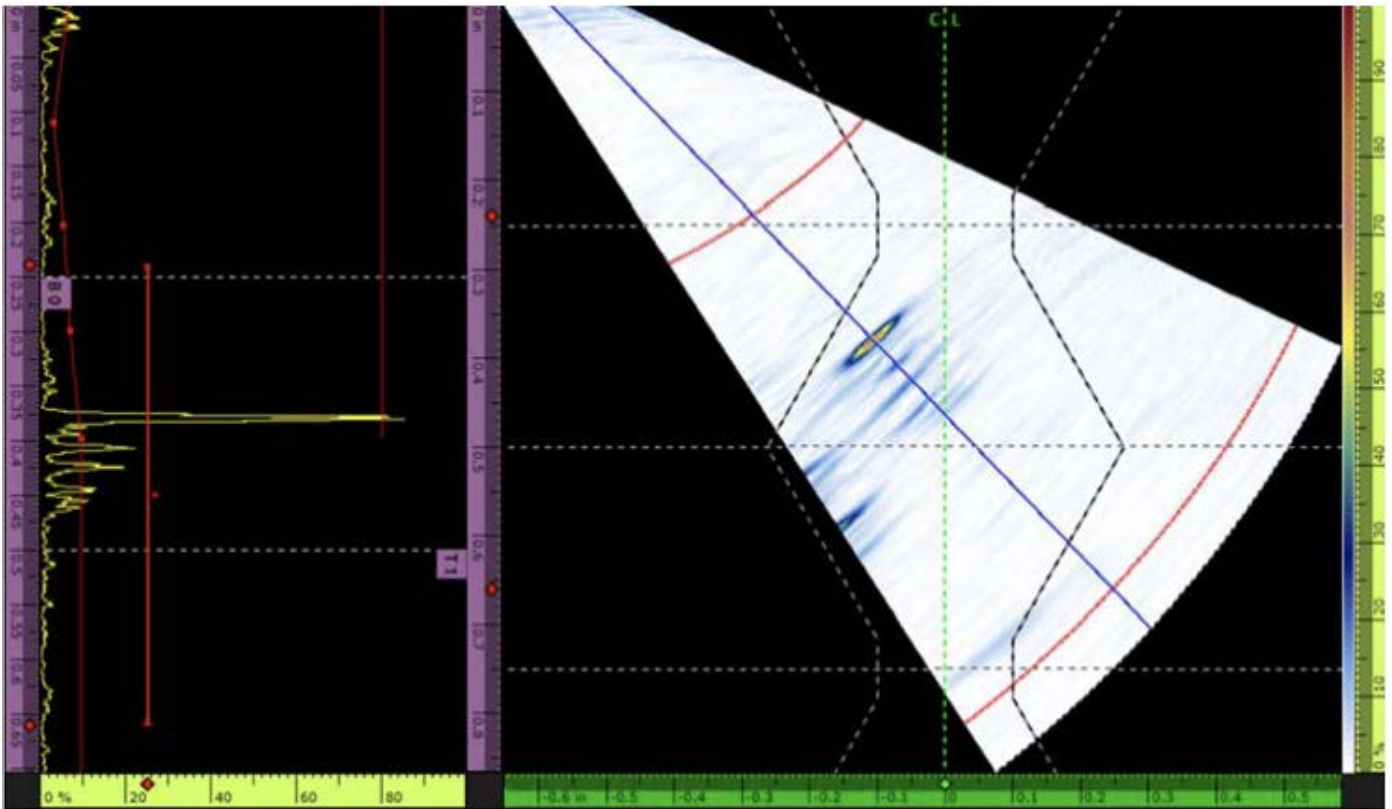
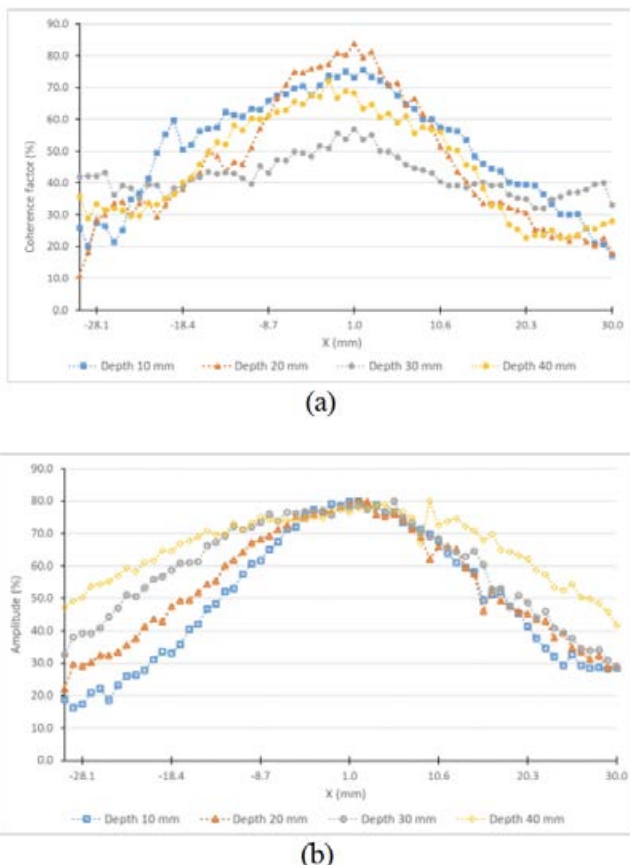

Figure 4. The same indication as Figure 3 appears to be Slag due to location on Weld Overlay. 37° bevel with a 0.10" Land Offset.
Figure 5. Distributions across ROI width established for tip diffractions at different depths of (a) PCI coherence factor; (b) TFM amplitude.
Figure 4. Mechanical TScan Cumulated images and corresponding Echodynamic Scanning curves obtained using (a) PCI and (b) TFM for tip diffractions at depths of: (1) 10 mm, (2) 20 mm, (3) 30 mm, (4) 40 mm.
The results presented in Figure 4 show the Mechanical TScan Cumulated images and their corresponding Echodynamic Scanning curves obtained by CIVA Analyse.
The Echodynamic Scanning curves of PCI and TFM were extracted and jointly plotted in Figure 5 to facilitate comparison. The PCI curves remained unchanged from those in Figure 4, while all TFM curves were normalized to 80% of screen height to account for amplitude calibration.